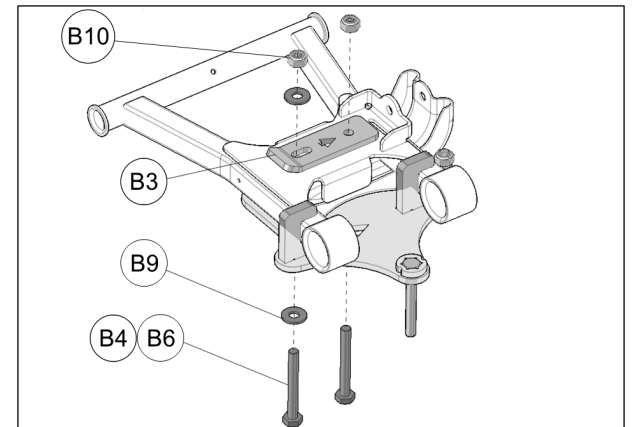

Fig. 8
7. Position bracket cover (B3) over lower suspension arm. Insert appropriate bolts [M10x55mm (B4) or M10x80mm bolts (B6)] through bottom. Set washers (B9) over bolt head and under nut installed in oblong holes present in bracket plate and cover. Use nuts (B10) to secure assembly. See Fig. 8